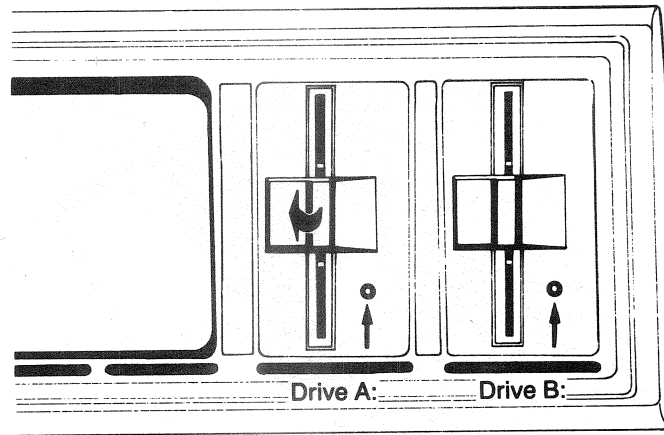

Figure 5-2. Opening Drive Doors
Step 1 - Open the drive door by gently pulling at the spring-loaded tab on its face. (See Figure 5-2.)